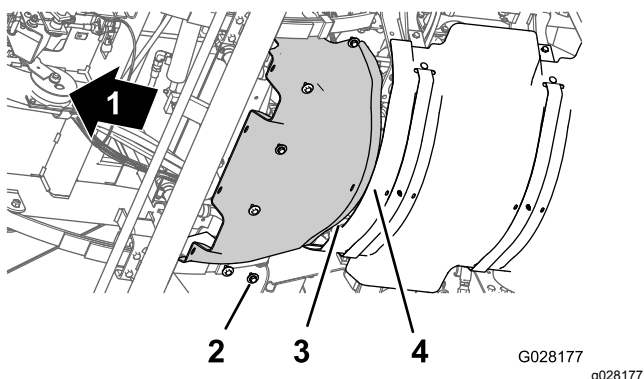

Figure 59
1. Align the rear flange of the forward heat shield over the forward flange of the rear heat shield (Figure 59).
2. Align the holes in the forward heat shield with the threaded holes in the chassis (Figure 59).
3. Assemble the forward heat shield to the machine with the 6 hex-head bolts and 6 washers (Figure 59) that you removed in step 3 of Removing the Forward Heat Shield (page 51).